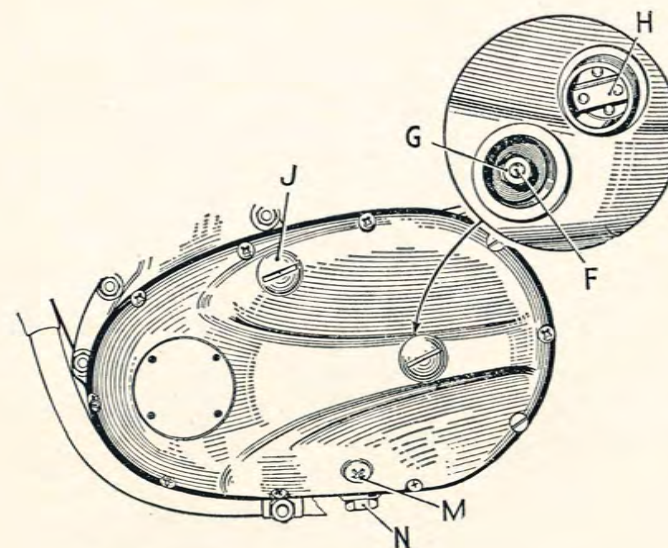
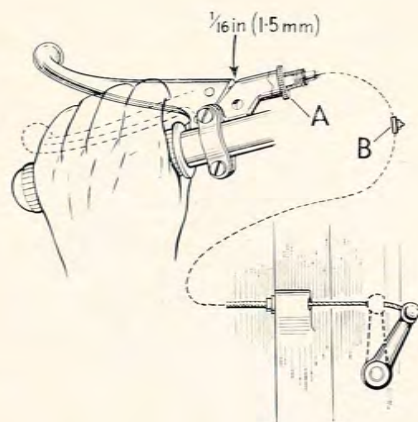

Fig. 18. Clutch adjustment and chaincase oil level.
Fig. 19.
Adjustment. An adjustable slipper-type tensioner is provided for the chain and its slackness can be tested after removal of the filler cap (J) Fig. 18. The chain is in correct adjustment when there is a minimum of $\frac{1}{8}$ " and a maximum of $\frac{1}{4}$ " of free play at the midway position between the sprockets.
Lubrication. The screw (M) Fig. 18, determines the oil level. To replenish with oil, first remove this screw and then the filler cap (J) at the top of the chaincase. Add oil of the correct grade (see "Recommended Lubricants", page 24) and allow to stand until any surplus oil has drained away. Replace the level screw and inspection cap. The machine should be on horizontal ground when this operation is carried out.
The main adjustment consists of a screw pin (F) and locknut (G) mounted on the clutch pressure plate. These are accessible after removal of the inspection cover (H) Fig. 18.
If adjustment is necessary, slacken off the handlebar cable adjuster (A) Fig. 19, and release the cable from the control lever above the timing cover on the right-hand side of the motor. Release locknut (G) Fig. 18, and adjust the pin (F) until the control lever is inclined outwards by a small amount. Add a short length of tubing to the lever to provide additional leverage and disengage the clutch, when the lever should take up a position approximately parallel with the timing cover joint face, shown dotted in Fig. 19. If necessary the adjuster must be modified until this condition is obtained.
Finally reconnect the cable to the control lever and readjust the cable length at the handlebar lever until there is about $\frac{1}{16}$ " of free play (see Fig. 19).